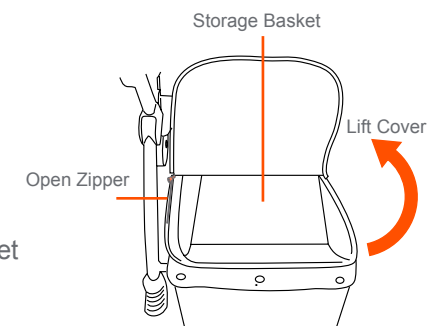

Fig. 9
- 9) • Use the zipper to open and close the storage cover to access the storage basket (Fig. 9).